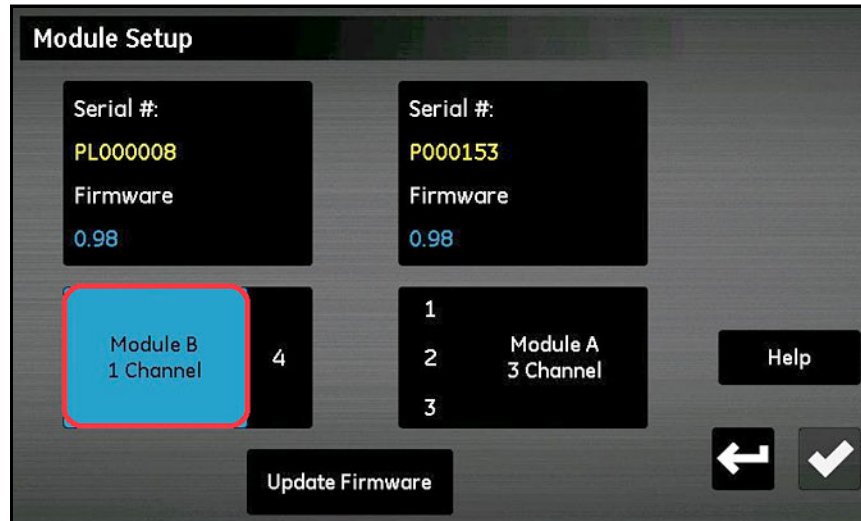

Figure 95: Module Selection
5. Tap the module that needs the firmware update, and that module will be highlighted in blue and the **Update Firmware** button will become available (see Figure 95 below). If the **Update Firmware** button is grayed out, check to ensure that the USB flash drive is properly plugged into the USB port.